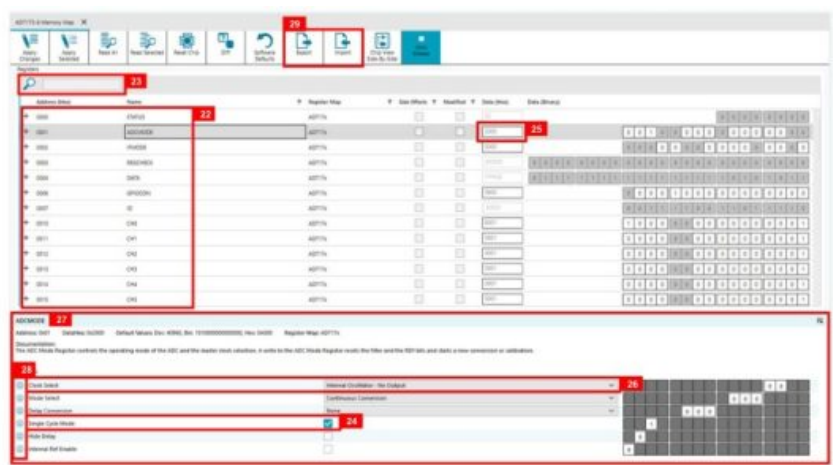

Figure 15. AD7173-8 Memory Map
- ▶ Register tree: the register maps nested list (Label 22 in Figure 15) shows the full register map in a tree control. Each register is shown. Click the expand button next to each register to show all the bit fields contained within that register.
- ▶ Register tree search: the register tree search box (Label 23 in Figure 15) allows the user to search the tree for any register or bit field. Enter a value into this field to filter the register tree.
- ▶ Register and bit field control: the register and bit field control section (Label 24 in Figure 15) allows the user to change the individual bit of the register selected in the register tree by clicking the bits or by programming the register value directly into the number control field (Label 25 in Figure 15). This control also shows all bit fields for the selected register. Change the values by using a dropdown box (Label 26 in Figure 15) or by selecting or clearing a checkbox (Label 27 in Figure 15).
- ▶ Documentation: the bit field documentation (Label 28 in Figure 15) contains the documentation for the register or the bit field selected. This field can be updated by selecting a register or bit field in the register tree or hovering over the register or bit field in the register tree or register control. This documentation is displayed by clicking the button labeled 28 in Figure 15.
- ▶ Import and export: save and load (Label 29 in Figure 15) allow the user to save the current register map setting to a file and to load the setting from the same file, respectively.